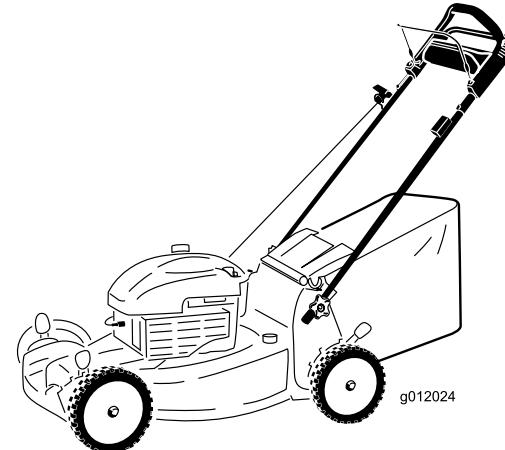

Figure 16
1. Raise and hold up the rear deflector (Figure 16).
2. Install the grass bag, ensuring that the pins on the bag rest in the notches on the handle (Figure 16).